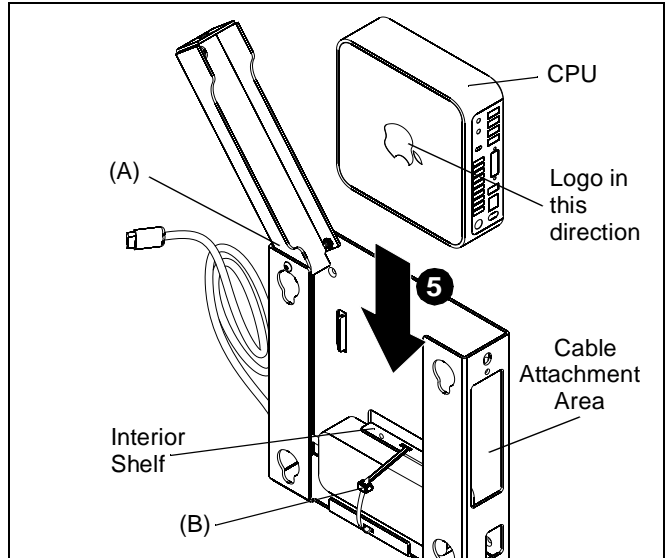

Figure 3
5. Place CPU into CPU holder (A), resting it on the interior shelf and cable tie (B). (See Figure 3)
NOTE: Ensure that logo on CPU is on its side so that cable attachment area is easily accessible inside the CPU holder. (See Figure 3)